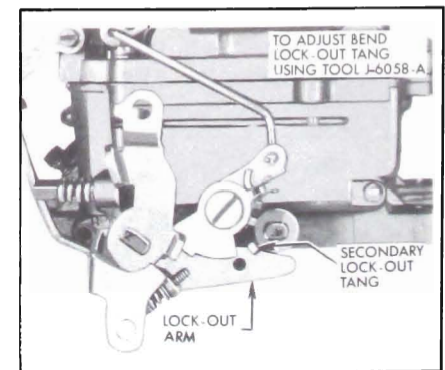

Figure 3-90—Secondary Throttle Lock-Out Adjustment
8. Adjust Secondary Throttle Lock-Out. Open primary throttle valves slightly to clear fast idle cam and manually open and close choke valve. Lock-out tang on secondary throttle should freely engage in notch of lock-out dog while barely missing edge of notch. If necessary to adjust, bend tang on secondary throttle lever using Tool J-6058-A. See Figure 3-90.